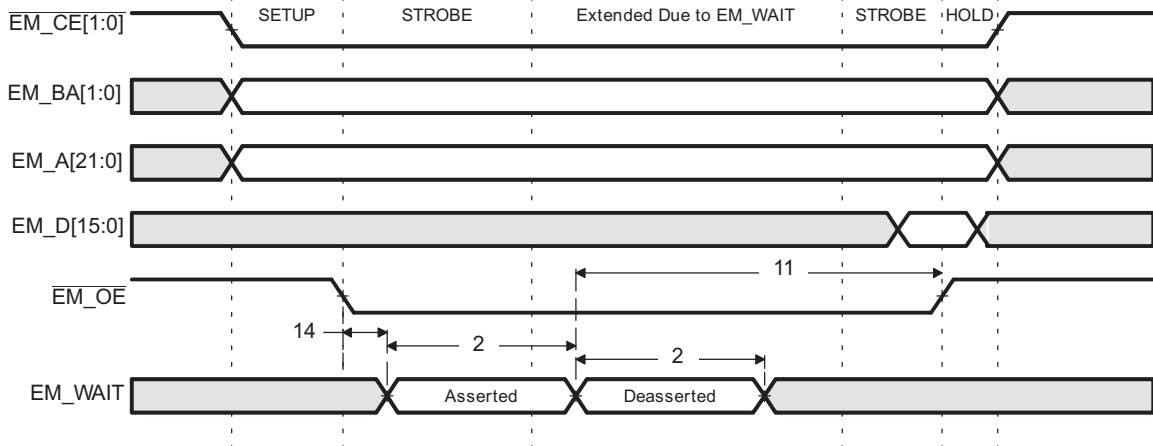
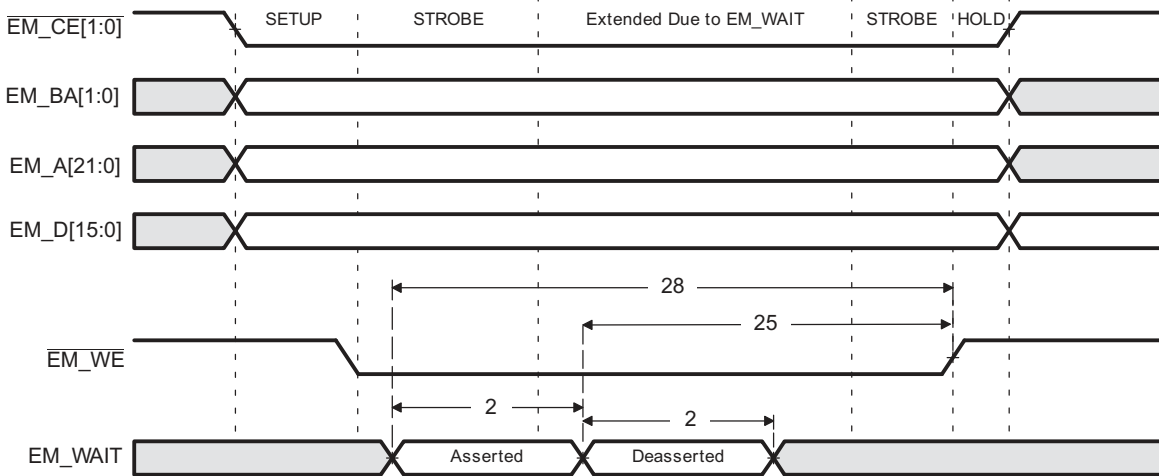

Figure 6-15. EM\_WAIT Read Timing Requirements
Figure 6-16. EM\_WAIT Write Timing Requirements
(1) E=2\*PLL1C SYSCLK4 period in ns. See Section 3.3 for more information.
(2) Setup before end of STROBE phase (if no extended wait states are inserted) by which EM\_WAIT must be asserted to add extended wait states. Figure 6-15 and Figure 6-16 describe EMIF transactions that include extended wait states inserted during the STROBE phase. However, cycles inserted as part of this extended wait period should not be counted; the 4E requirement is to the start of where the HOLD phase would begin if there were no extended wait cycles.